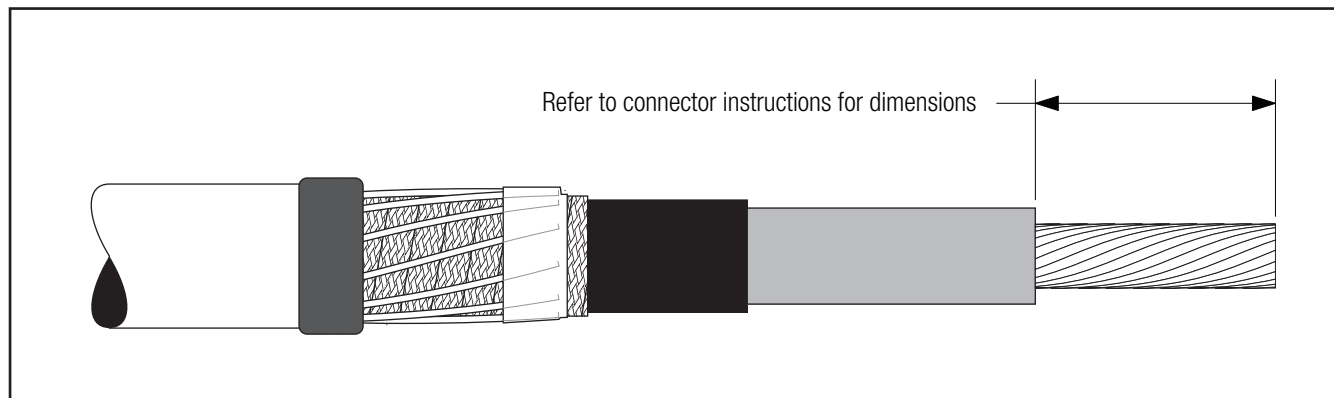

Figure 7
- 3.1 If using a 3M Shearbolt Connector QCI 4/0-600, refer to the instructions included with the connector for insulation cut-back dimension. Insulation removal length shall not exceed 3" (76 mm) from conductor end (*Figure 7*).